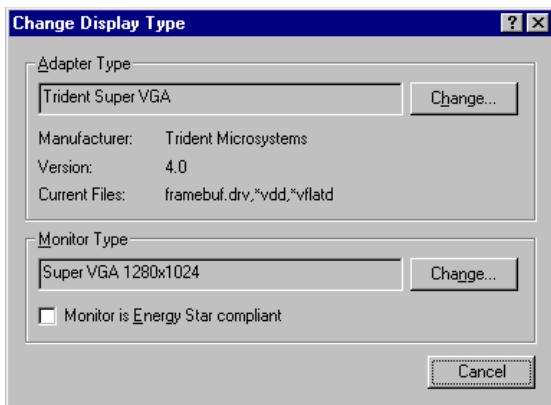

Figure 3-3.
4. SELECT either the Change Display Type” or the Advanced Properties” selection bar, and then SELECT the Change” button next to Adapter Type (refer to Figure 3-3).